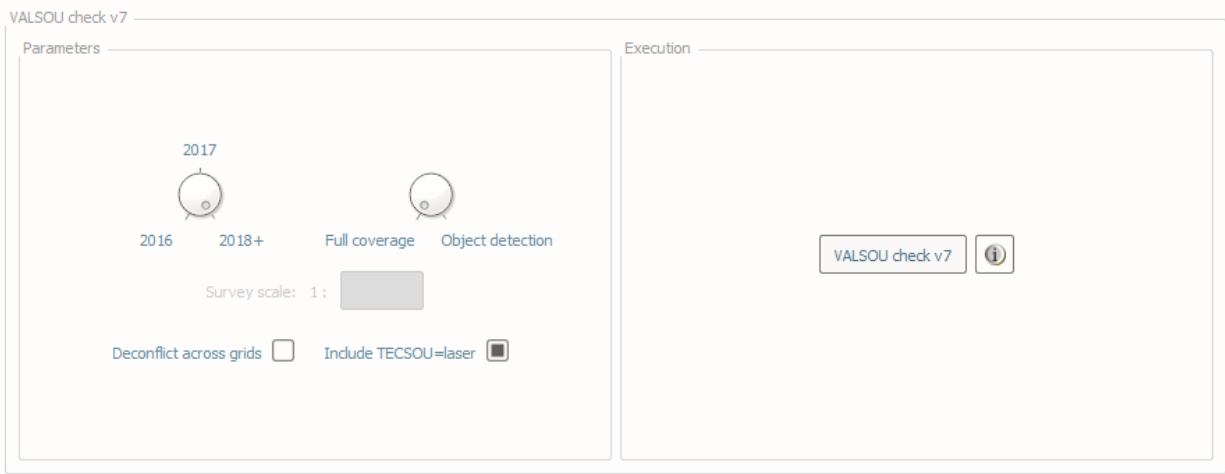

Fig. 2.48: The **VALSOU check** tab.
- Select the **VALSOU check** tab (Fig. 2.48) on the bottom of the QC Tools interface.